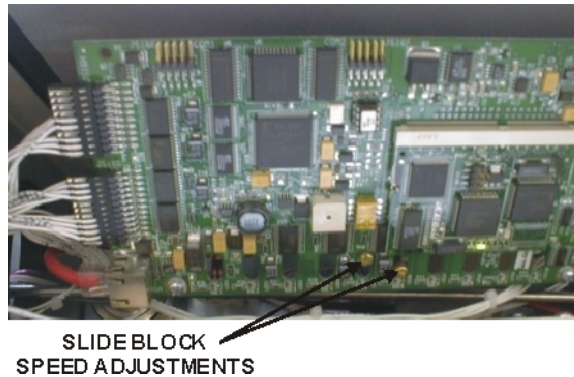

Figure 9-4
12. If the carousel is moving too fast or too slow in either direction, adjust the speed controls on solenoid valves SV13 and SV14. Refer to Figure 9-4, page 9-28.